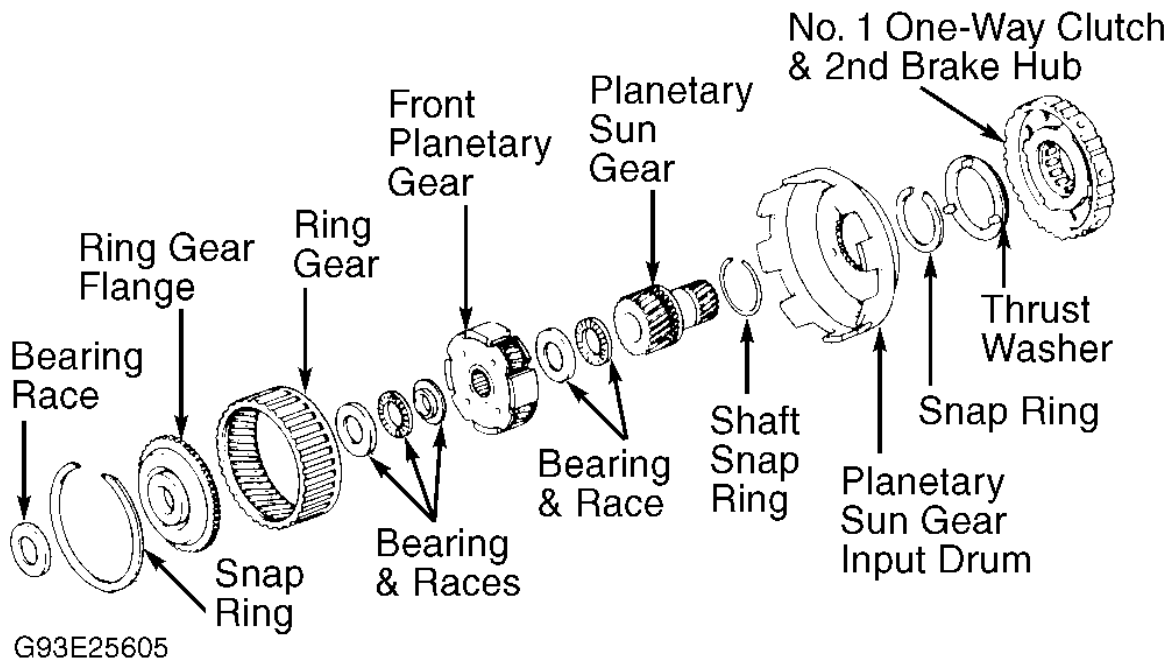

Fig. 38: Exploded View Of Front Planetary Gear
2. Remove thrust washer from sun gear input drum. Remove snap ring. Remove sun gear input drum. Remove shaft snap ring from sun gear. Remove one-way clutch retainer if clutch requires replacement. Remove one-way clutch from hub. See Fig. 38 .
Install shaft snap ring to sun gear. Install sun gear to drum. Install snap ring to drum. Install thrust washer to sun gear input drum. See Fig. 38. Rotate hub clockwise. Install one-way clutch and 2nd brake hub. Check one-way clutch operation. Hold sun gear and rotate hub. Hub should rotate freely clockwise and lock counterclockwise.